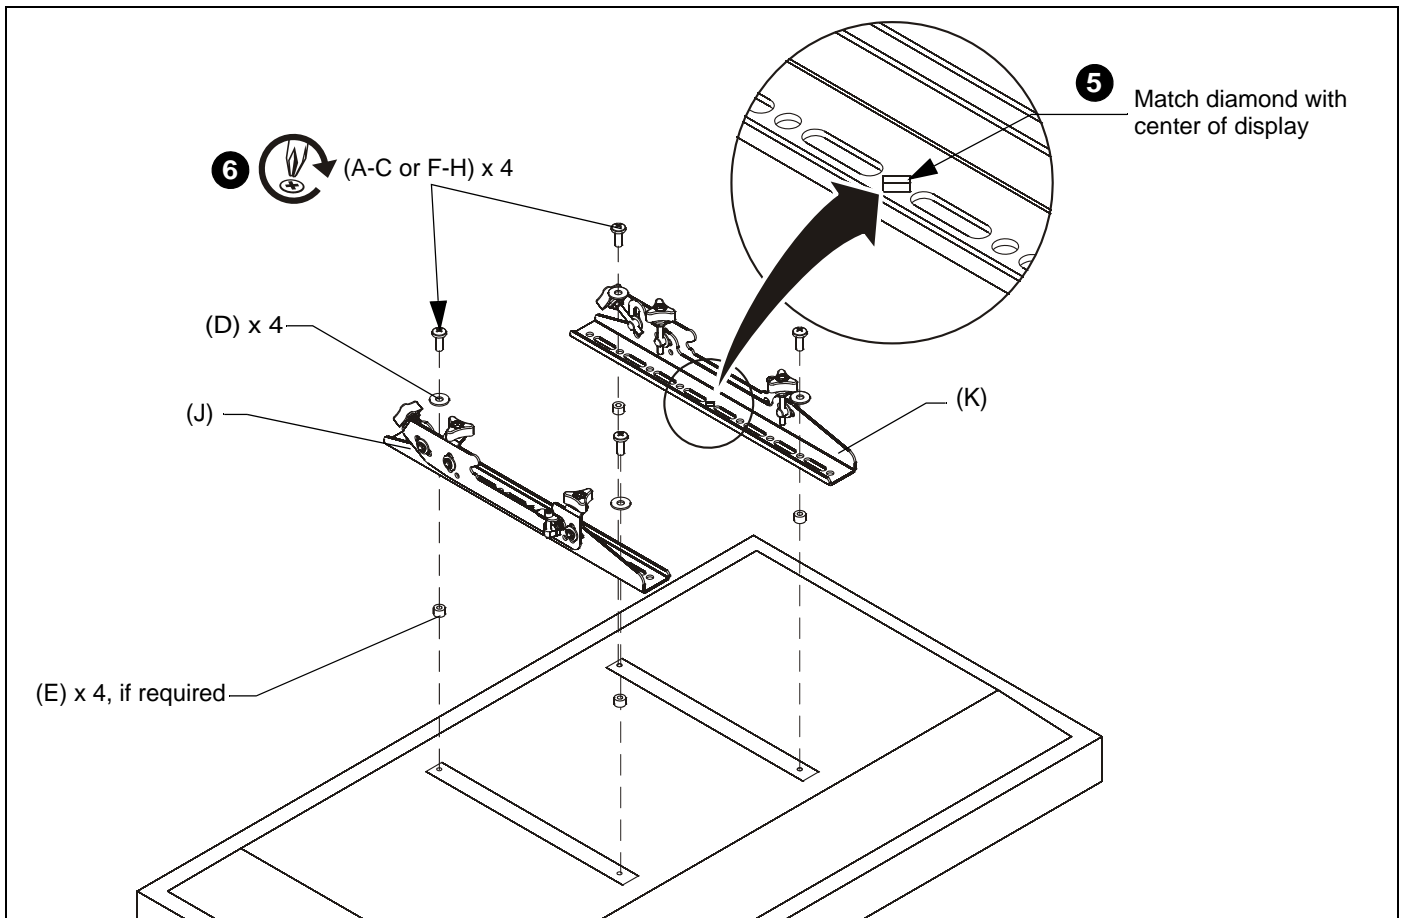

Figure 6
2. Select screw *diameter* by examining hardware (A-C and F-H) and comparing with mounting holes on display. (See Figure 6)
- Spacers (E) **ARE** required if mounting holes are recessed, or if protrusions prevent interface brackets (J and K) from laying flat.
4. Select screw *length*: (See Figure 6)
- By hand, insert **SHORTEST** length screw of selected diameter (A or F) through 1/4" washer (D), bracket (J or K), selected spacer (E, if required), into display mounting hole. Do **NOT** thread screw into hole at this time.
5. Align the center of the interface brackets (J and K) with center of screen. (See Figure 6)
6. Use selected screws (A-C or F-H), washers (D) and spacers (E, if necessary), to connect interface brackets (J and K) to back of display. (See Figure 6)